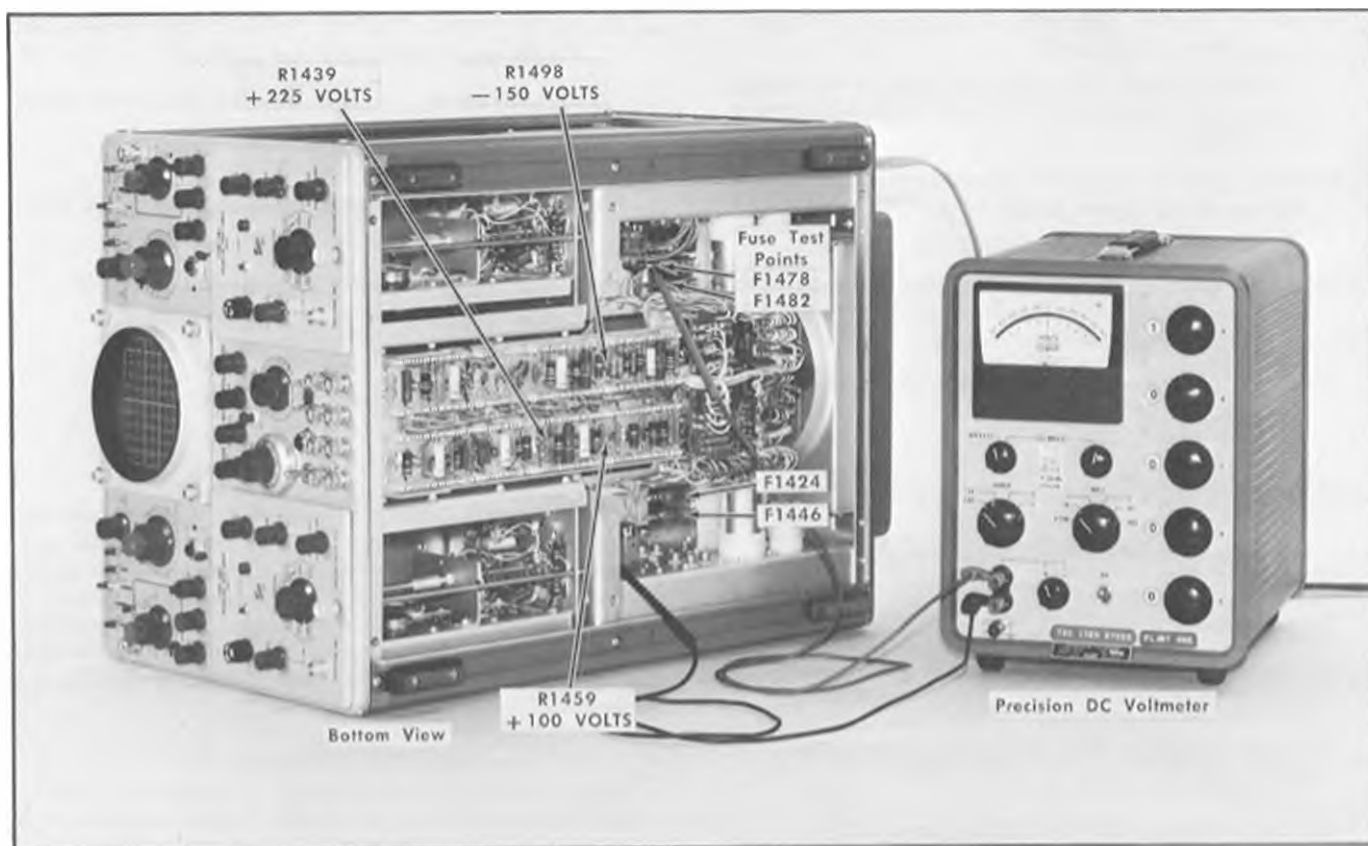

Fig. 6-4. Initial test setup for power supply voltage adjustment.
- The initial test equipment setup is shown in Fig. 6-4.
- Set the precision DC voltmeter (item 7 of Recommended Equipment) to the  $-150$  volt range.
- Connect the voltmeter negative lead to the output end of fuse F1482 (Fig. 6-4), and connect the positive lead to chassis ground.